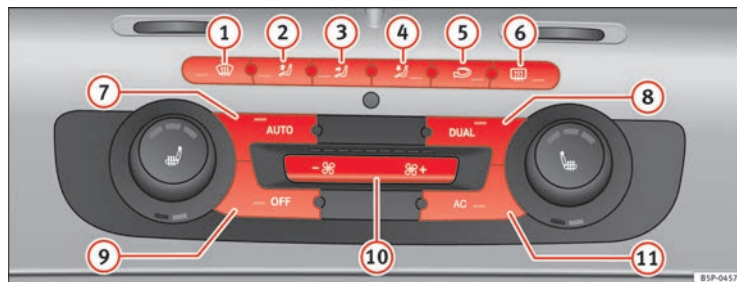

Fig. 130 On the dash panel: 2C Climatronic controls
- Turn the temperature control knobs ⇒ fig. 130 9 or 11 in order to adjust the temperature on the left hand side or the right hand side respectively.
- Press the  ⇒ page 161, fig. 130 button. “AUTO High” is shown on the radio display (high fan speed).
- Press the  button again ⇒ page 161, fig. 130. “AUTO Low” is shown on the radio display (low fan speed).